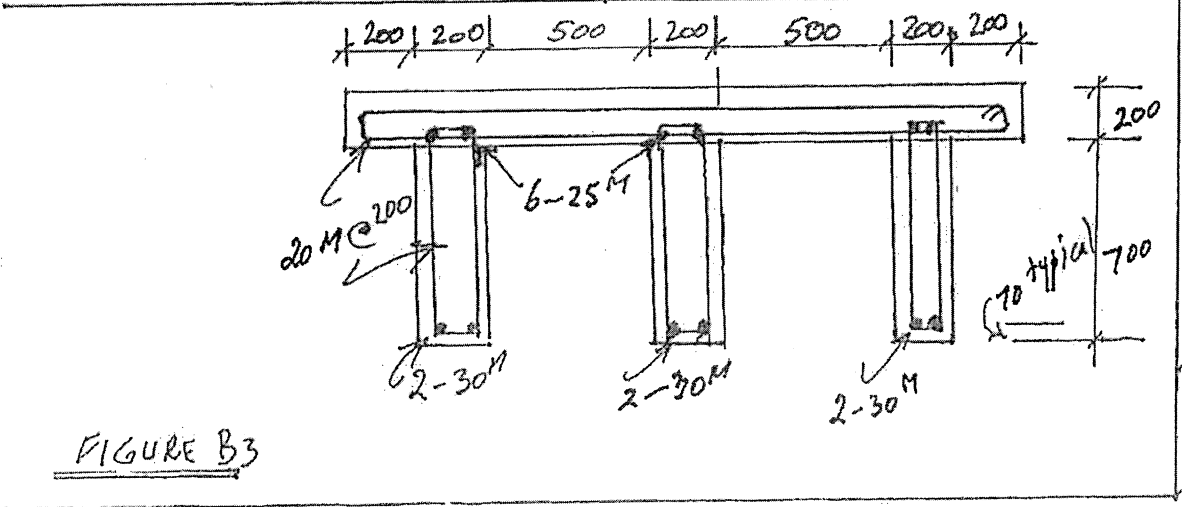

FIGURE B3
- B3. A reinforced concrete triple T-section has dimensions and reinforcement as shown in Figure B3. Calculate its moment of resistance, M_r and the shear resistance, V_r . (Use $f_c' = 35$ MPa and $f_y = 400$ MPa.)